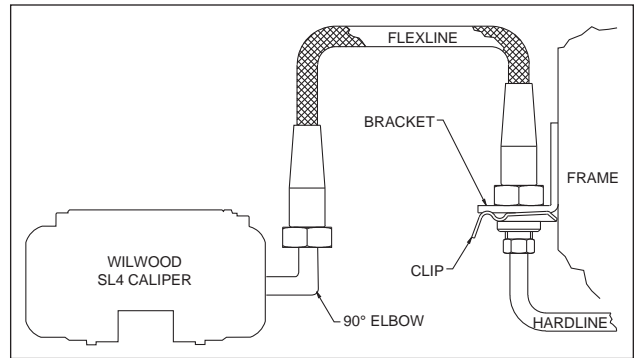

Figure 4. Brake Line Diagram
- Remove the caliper center bridge pad retainer bolt, nut, and tube from the caliper. Insert the brake pads (12) into the caliper, with the friction material facing the rotor, as shown in Photo 4. Check that the top of the brake pad is flush with the outside diameter of the rotor, Photo 5. If not, adjust by adding or subtracting shims (11) between the caliper and the bracket. After the caliper pad height is set, reinstall the center bridge pad retainer tube, bolt, and lock nut. The lock nut should be snug without play in the bolt or tube. Be cautious not to over tighten. Torque the caliper lock nuts (8) to 30 ft-lb.
- **NOTE:** *The caliper in this brake kit utilizes a 1/8-27 NPT pipe thread inlet. OEM rubber brake hoses generally cannot be adapted to Wilwood calipers. Wilwood offers a brake flex line hose kit to fit this application, order P/N 220-8177 for C5, or 220-9101 for C6 (NOT included in kit), see Figure 4. Hose kit includes hoses, fittings, etc., all in one package for this application. **Carefully route hoses to prevent contact with moving suspension, brake or wheel components.** **NOTE:** *Wilwood hose kits are designed for use in many different vehicle applications and it is the installer's responsibility to properly route and ensure adequate clearance and retention for**